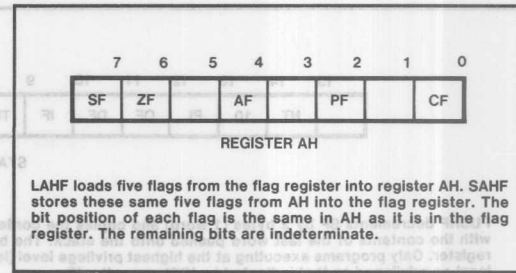

Figure 3-12. LAHF and SAHF
*LAHF (Load AH from Flags)* copies SF, ZF, AF, PF, and CF to AH bits 7, 6, 4, 2, and 0, respectively (see figure 3-12). The contents of the remaining bits (5, 3, and 1) are undefined. The flags remain unaffected. This instruction can assist in converting 8080/8085 assembly language programs to run on the base architecture of the iAPX 86, 88, 186, and 286.
*SAHF (Store AH into Flags)* transfers bits 7, 6, 4, 2, and 0 from AH into SF, ZF, AF, PF, and CF, respectively (see figure 3-12). This instruction also provides 8080/8085 compatibility with the iAPX 86, 88, 186, and 286.